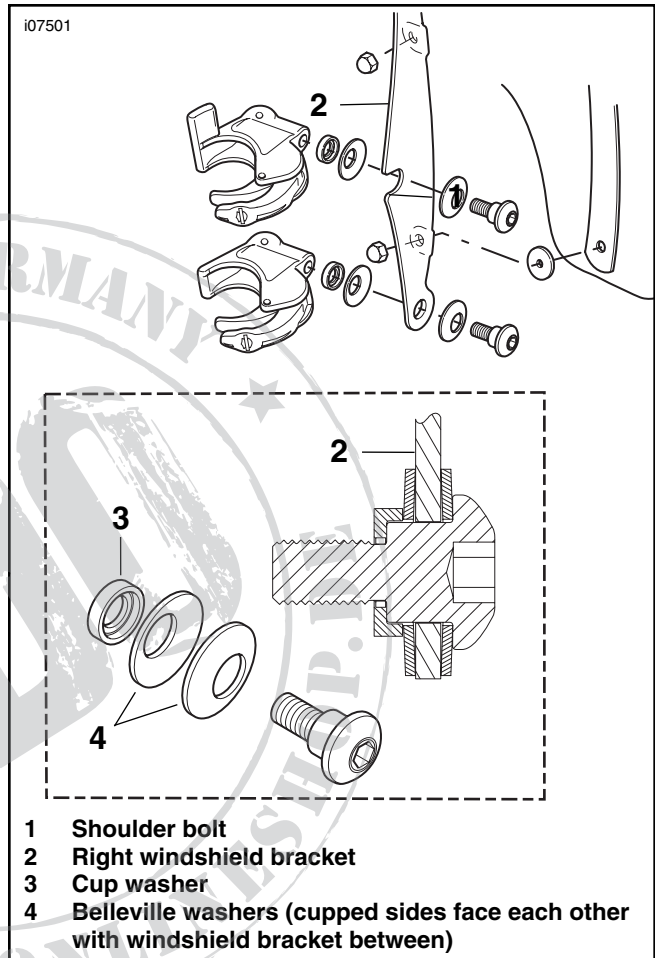

Figure 5. Windshield Mounting Clamp
- See Figure 5. Assemble the clamp assemblies and hardware stacks.
- See Figure 5. One clamp at a time, with the clamp facing upward and inboard of the windshield bracket (2), tighten the shoulder bolts (1) enough to hold the clamp orientation to the windshield during mounting of the windshield to the bike. The bolts will be fully tightened later.